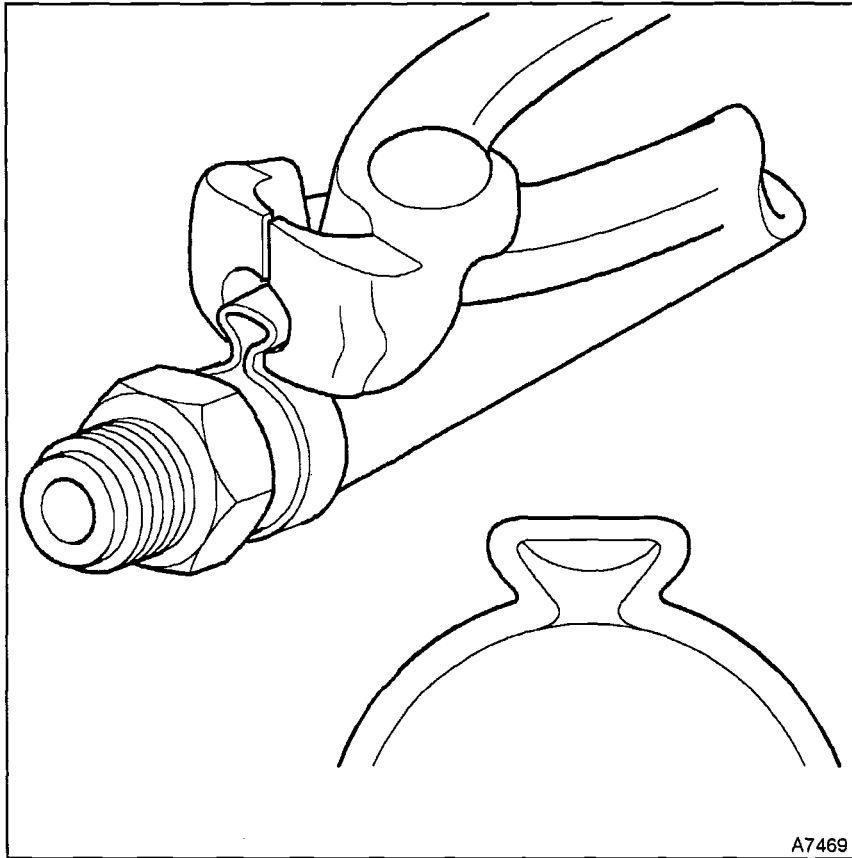

Figure 4
15. With the clips positioned use Oetiker side jaw pincers (part number WT10001). Hold the pliers parallel to the hose and close the clip ear fully. It is important that a constant pressure is applied to close the clip ear. This method ensures positive stress on the hose, which does not result in excessive compression or expansion of the clip material. The clip will not always remain closed fully and a permitted opening after closure is shown in figure 4